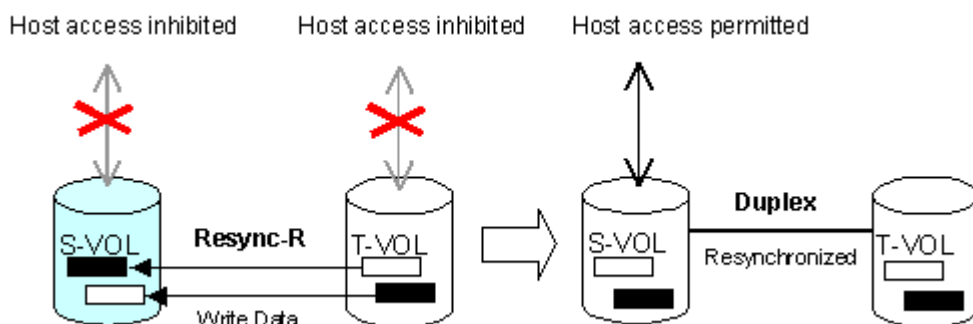

Figure 84 Backward pairresync operations
- **Reverse.** The reverse resync operation (see Figure 84) synchronizes the S-VOL with the T-VOL. The copy direction for a reverse resync operation is T-VOL to S-VOL. Table 62 on page 240 lists the operational requirements for the reverse resync operation. The pair status during a reverse resync operation is *resync-r*, and the S-VOL and T-VOL become inaccessible to all hosts for write operations during a reverse resync operation. As soon as the reverse resync operation is complete, the S-VOL becomes accessible. The reverse resync operation can be performed only on split pairs, not on suspended pairs.
- **Quick Restore.** The quick restore operation (see Figure 84) speeds up the reverse resync operation by changing the volume map in the XP128/XP1024/XP12000 to swap the contents of the S-VOL and T-VOL without copying the T-VOL data to the S-VOL. The S-VOL and T-VOL are resynchronized when update copy operations are performed for pairs in the *duplex* status. The pair status during a quick restore operation is *resync-r* until the volume map change is complete. The S-VOL and T-VOL become inaccessible to all hosts for write operations during a quick restore operation. Table 62 on page 240 lists the operational requirements for the quick restore operation.